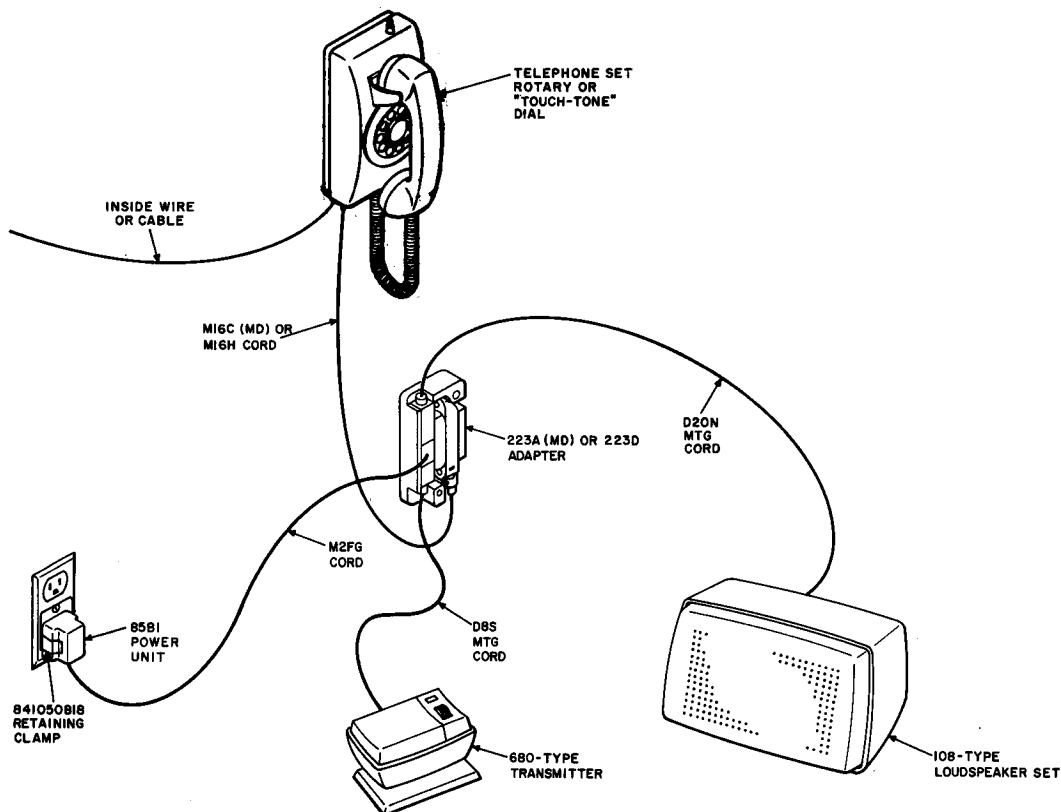

Fig. 1—Typical Grandfathered 4A Speakerphone System Arrangement, 558D, 558F, and 2558D Telephone Sets Using 223A (MD) or 223D Adapter
1.03 To provide 4A speakerphone feature at the 558- and 2558-type telephone sets, refer to Fig. 1 or 2 for layout arrangement of the components required for the system and Fig. 3, 4, 5, or 6 for individual lead connections.
2.04 Power shall be supplied by connecting 85B1 power unit as shown in Fig. 1 or 2.